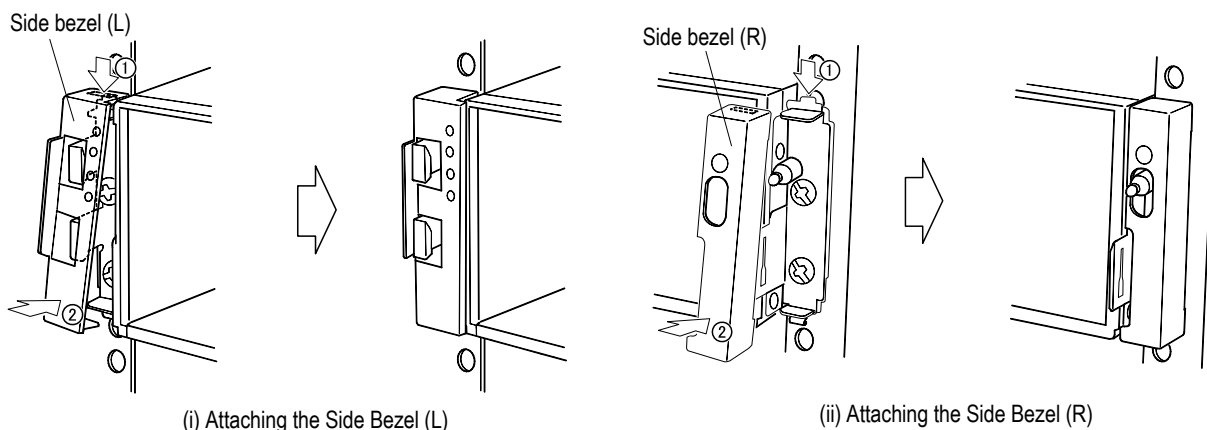

Figure 2.4.20 Attaching the Side Bezels
- (i) Attach the side bezel in the procedure ① and ② to cover the left side of the front side of the array with the side bezel (L) from the top (Refer to Figure 2.4.20.)
- (ii) Attach the side bezel in the procedure ① and ② to cover the right side of the front side of the array with the side bezel (R) from the top (Refer to Figure 2.4.20.)